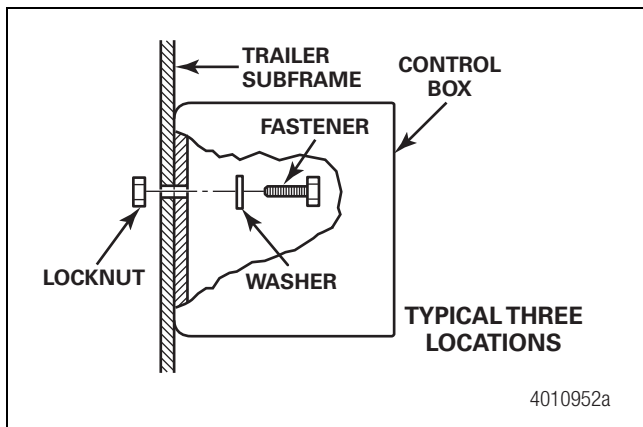
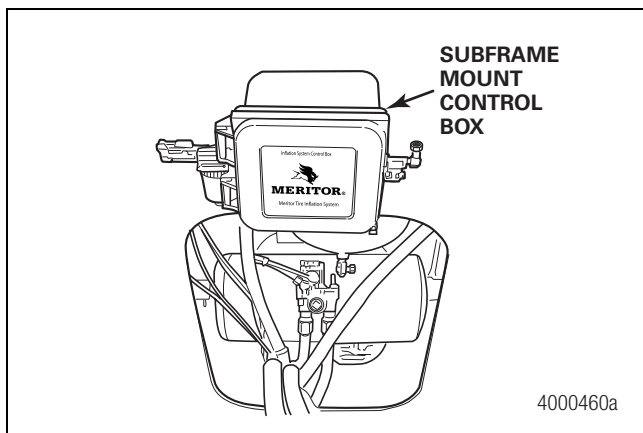

Figure 2.55
Figure 2.56
- Discard the supplied mounting bracket. Use the supplied 1/4-inch (6.36 mm) fasteners, washers and locknuts to install the control box directly to the subframe. Figure 2.55 and Figure 2.56.